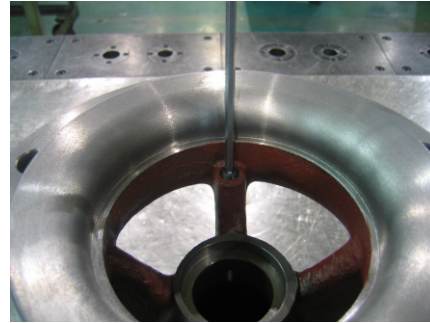

Fig.3 Plugging with Loctite 620 (록타이트 620 도포후 플러깅)
3. The plug is coated with loctite 620 and tighten as shown in Fig.3.